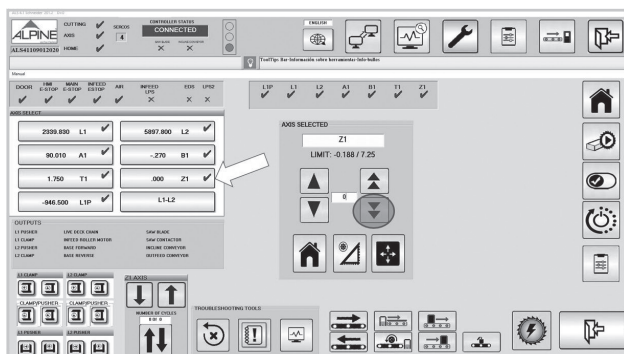

Figure 165
Step 4 – Jog Z1 down by selecting the Z-1-Axis first (Shown with the Arrow) and then pressing the button “Jog Z1 Down” to End Stop (Shown circled), The Saw will Beep and stop. Refer Figure 165.